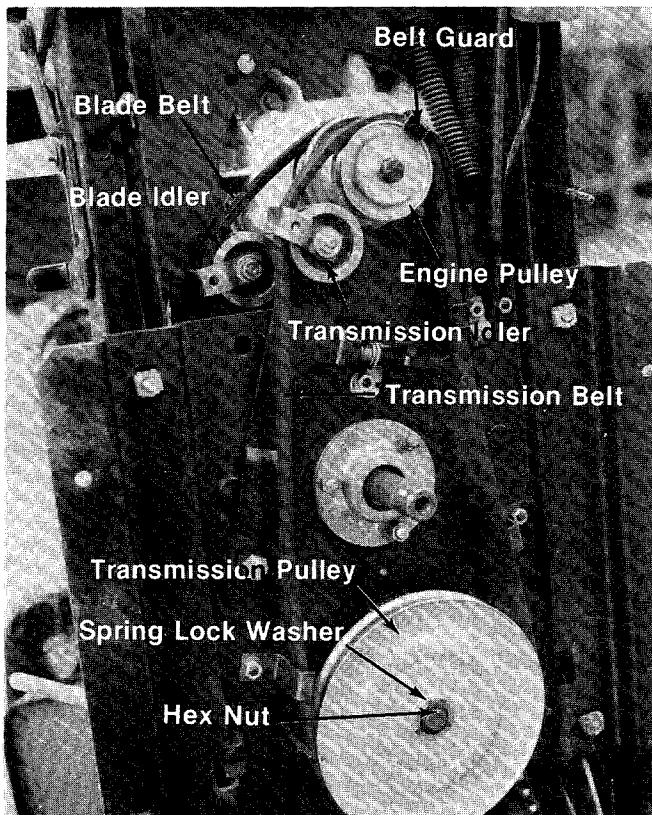

FIGURE 24. BELT SYSTEM
Step 4. Remove the transmission belt from the engine pulley. It may be necessary to spring the belt guard out of the way. When installing the new belt be sure to put the belt guard back in the original position. See figure 24.
Step 6. Remove hex nut and spring lock washer on the transmission pulley and slide the pulley out until the belt can be removed. See figure 24.
Step 4. Remove the transmission belt from the engine pulley. See figure 24.
It may be necessary to spring the belt guard out of the way. When installing the new belt be sure to put the belt guard back in the original position. See figure 24.
CREEPING OR BELT WEAR. See figure 24.
DRIVE PULLEYS. See figure 24.
BELT WEAR—Belt Guards and Clips. See figure 24.
CREEPING. See figure 24.